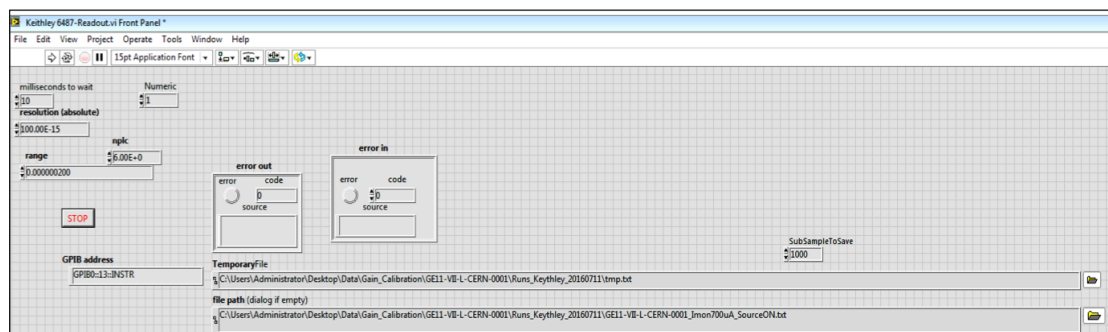

Figure 5.9: QC5 Keithley 6487 control software (front panel).
9. On the software front panel (Fig. 5.9), set the "millisecond to wait" to 10, "Numeric" to 1, "Resolution (absolute)" to 10^{-13} and "nplc" to 6. Then set the "GPIB address" to *GPIB0::XX::INSTR*, where *XX* is the actual address of you pico-ammeter. More information can be found in the Keithley 6487
- 687 6. Check the name of the data file on the Keithley control software (Fig. 5.9) and
694 sition by clicking on the "stop" button shown on Fig. 5.9. The output file